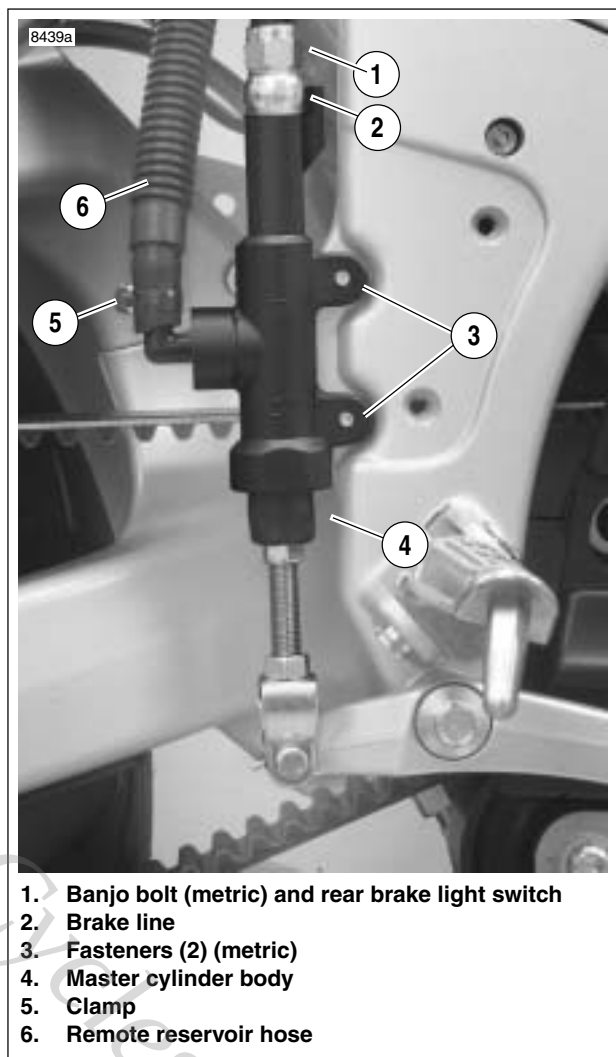

Figure 2-49. Rear Master Cylinder On Vehicle
4. See Figure 2-49. Remove brake reservoir hose at master cylinder.